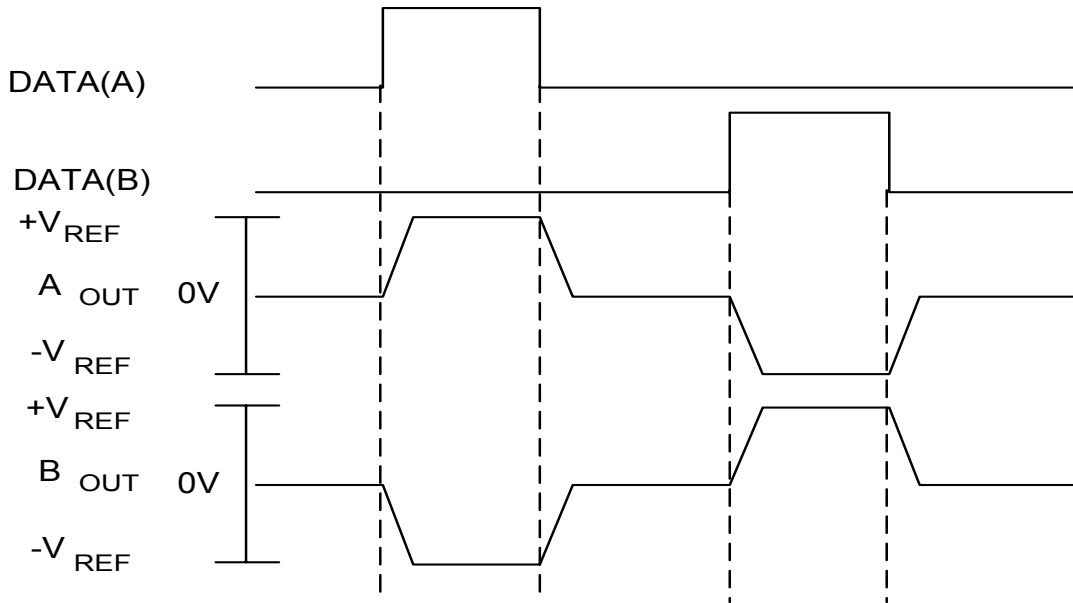

Figure 4: ARINC 429 Waveforms
DATA(A) DATA(B)	Logic inputs. These signals contain the Serial Data to be transmitted on the ARINC 429 data bus. Refer to Figure 4 and Figure 5.
Figure 4 and Figure 5 show the output waveforms for the ARINC 429 and RS-422 modes of operation. The output slew rates are controlled by timing capacitors C_A and C_B . They are charged by $\pm 200\mu\text{A}$ nominal. Slew Rate (SR) measured as $\text{V}/\mu\text{sec}$, is calculated by: